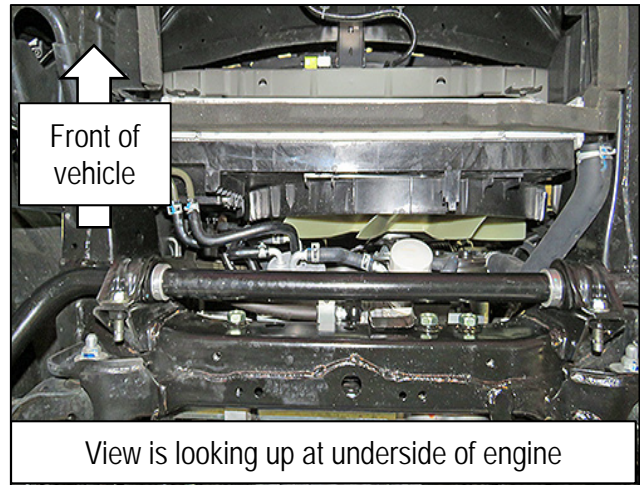

Figure 5
- The engine under cover is attached with four (4) 13 mm bolts.
**NOTE:** Figure 5 is shown with the engine under cover removed.